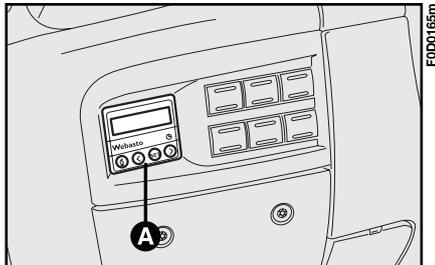

fig. 85
– a digital timer **A-fig. 85** to start the heater manually or to program starting time.